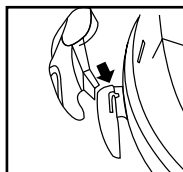

FIGURE 11
12. Place "J" shaped tabs into the slots on cord wraps **FIGURE 11.** Press down until tabs snap into place.